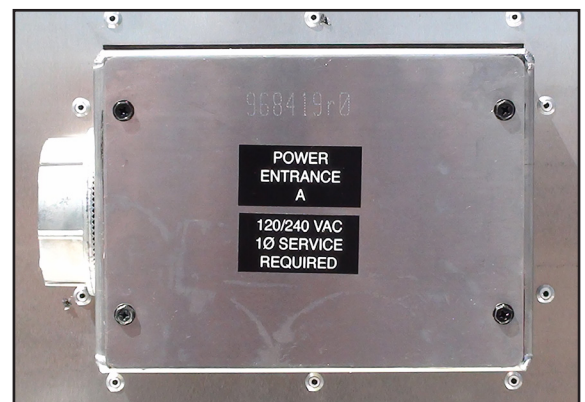

Figure 9: Display Power Requirements Label
1. Review the power requirements for the display. Requirements are found on the display shop drawing or label on the display's back, as shown in **Figure 9**.